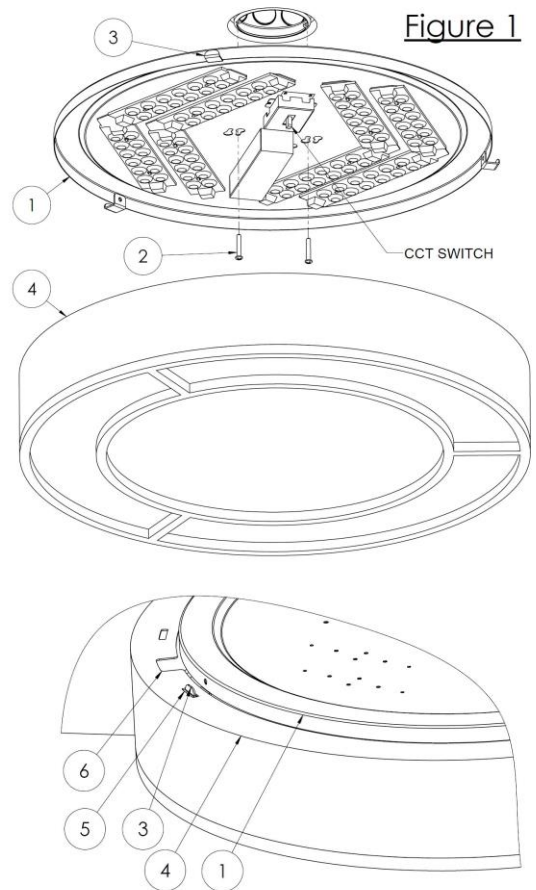

Figure 2
- A. Install the fixture pan (1) to the 3-0 or 4-0 junction box (not provided) using two screws (2) to secure it.
- A. Install the shade (4) by aligning the three large openings (6) with the shade support (3). Carefully lift the shade upward, then rotate it until the three small slots (5) are seated securely on top of the support, as illustrated in Figure 2.